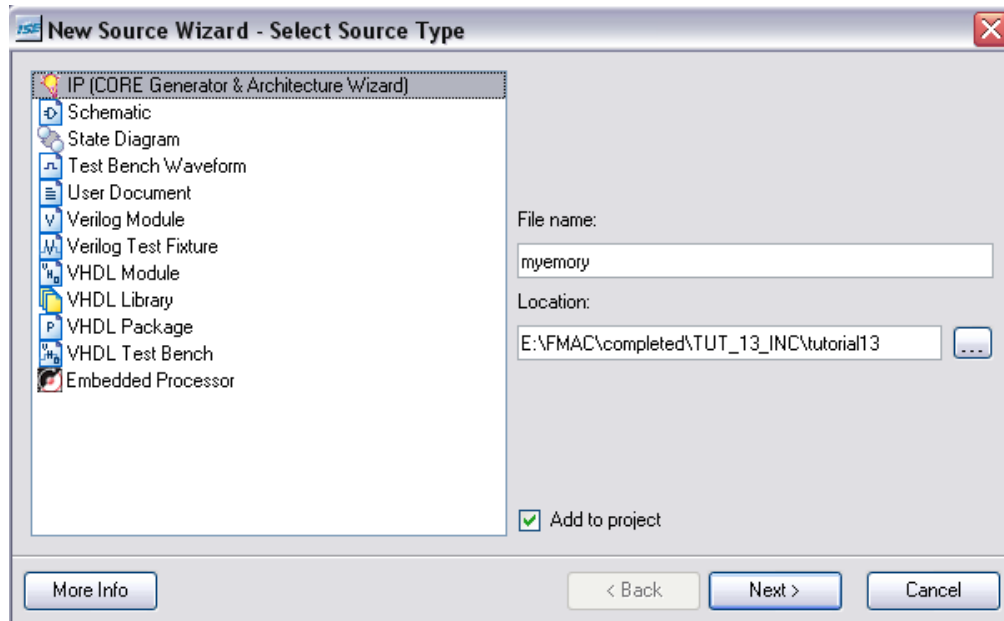

Figure 7: New Source Wizard
- b. Highlight on **IP (Coregen & Architecture Wizard)** in the left and call the source **mymemory** (Figure 7). Click on **Next**.